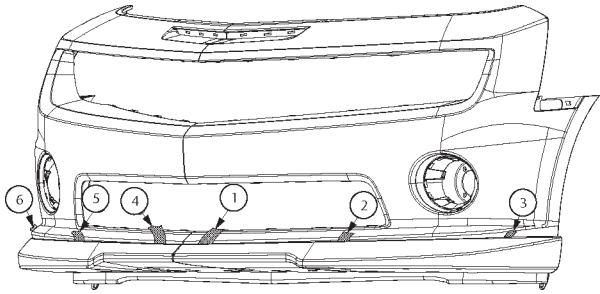

FIGURE 37
14. Using 2 people, remove the tape tabs. Wet out after each tape tab removal by firmly pressing (15 Lbs.) against the cladding. Refer to figure 37.